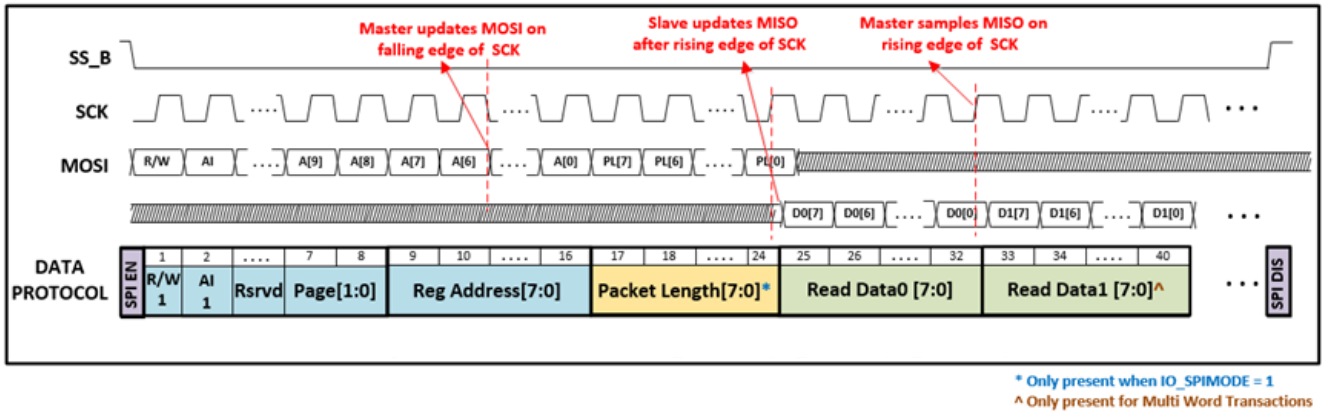

Figure 45. SPI Read Transaction with IO\_SPIMODE = 1; IO\_SPICPOL = 0; IO\_SPICPHA = 0
4. The master drives SS\_B high to terminate the transaction as shown in Figure 45.